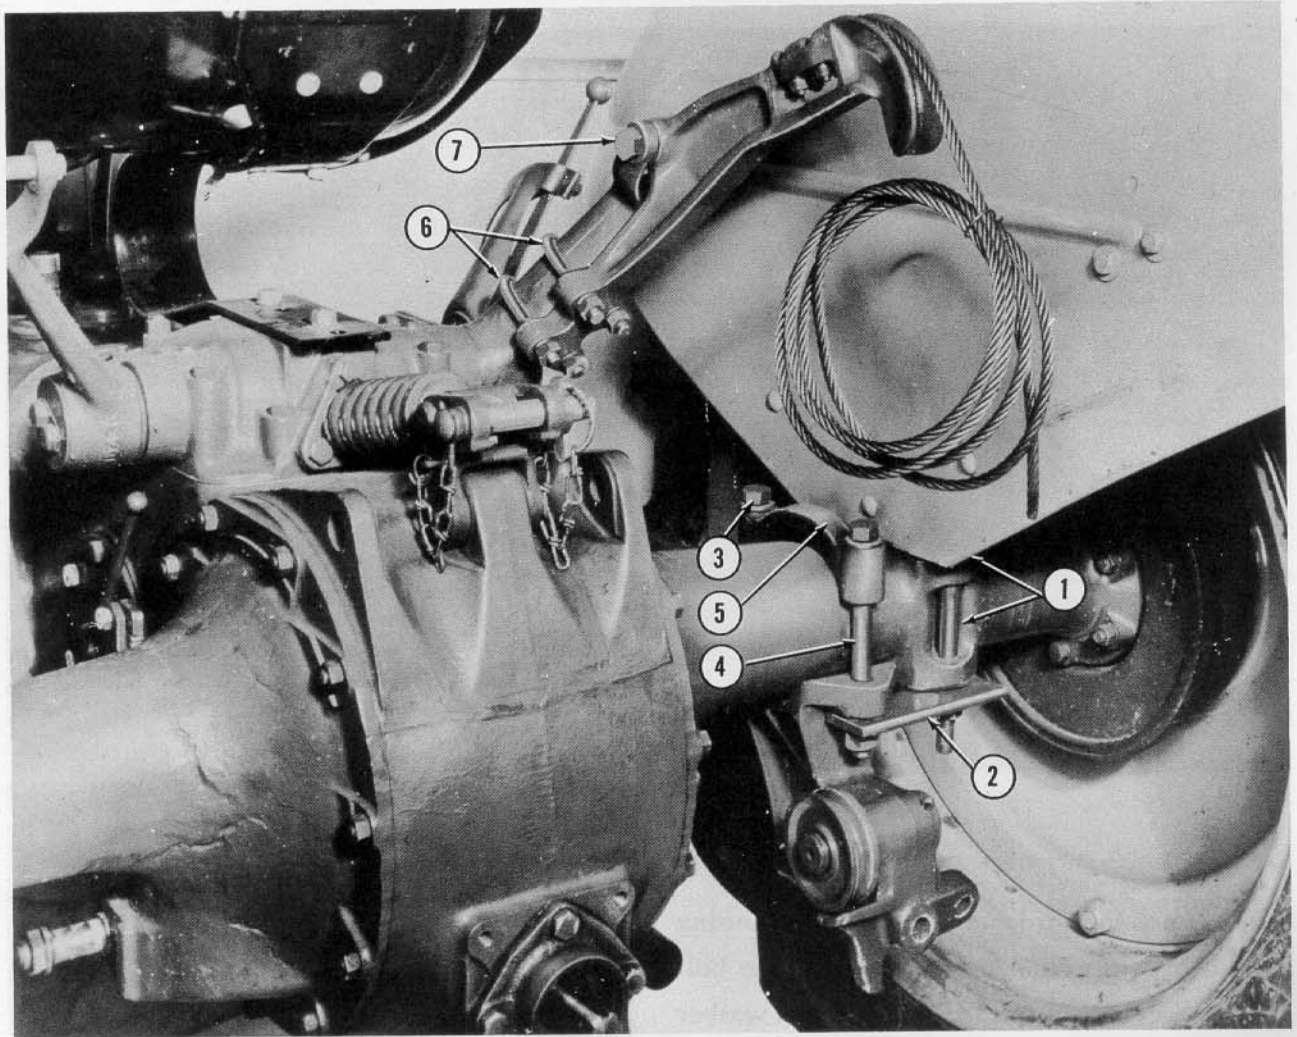

Figure 8
- a. Remove the two bolts holding right hand fender to axle and replace with two bolts (1) in pulley support bracket plate (2), Figure 8. Be sure the longer bolt is to the rear.
- b. Remove bolt (3) from forward end of bracket clamp and loosen nut on bolt (4).
- c. Position bracket under axle and secure bolts (1) with lock washers and nuts.
- d. Swing top of bracket clamp (5) in position over axle and secure bolts (3) and (4) with lock washers and nuts as shown in Figure 8.
13. Remove cotter pin and pin from right hand tractor hydraulic lift arm extension. Attach cable assembly with "U" bolts (6) and bolt (7) provided with extension arm, as shown in Figure 8.